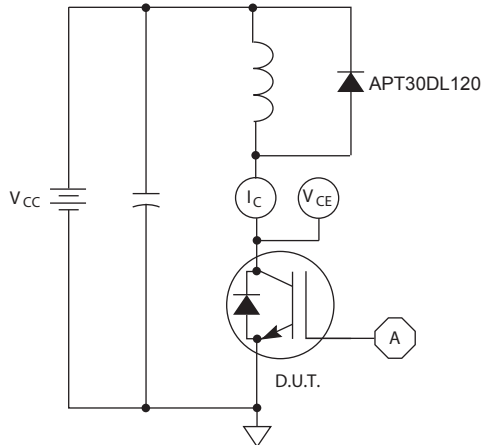

Figure 21, Inductive Switching Test Circuit
① Repetitive Rating: Pulse width limited by maximum junction temperature.
② For Combi devices,  $I_{ces}$  includes both IGBT and FRED leakages
③ See MIL-STD-750 Method 3471.
④  $E_{on1}$  is the clamped inductive turn-on energy of the IGBT only, without the effect of a commutating diode reverse recovery current adding to the IGBT turn-on loss. Tested in inductive switching test circuit shown in figure 21, but with a Silicon Carbide diode.
⑤  $E_{on2}$  is the clamped inductive turn-on energy that includes a commutating diode reverse recovery current in the IGBT turn-on switching loss. (See Figures 21, 22.)
⑥  $E_{off}$  is the clamped inductive turn-off energy measured in accordance with JEDEC standard JESD24-1. (See Figures 21, 23.)
⑦  $R_G$  is external gate resistance, not including  $R_{G(int)}$  nor gate driver impedance.
⑧ Continuous current limited by package lead temperature.